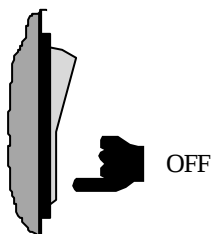

Fig. 6.4.1
- turn the appliance off (Fig. 6.4.1) and open the main power switch;